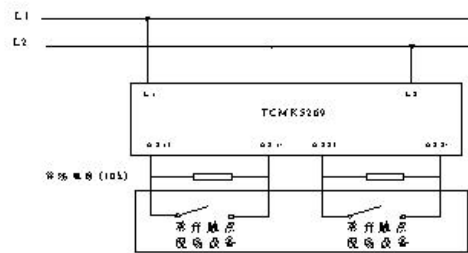

Fig. 4 Schematic diagram of connection between module and field device with normally open passive contacts
1.The connection method between the module and a field device with normally open passive contacts is shown in Figure 4.Module input setting parameter is set to normally open check line mode.